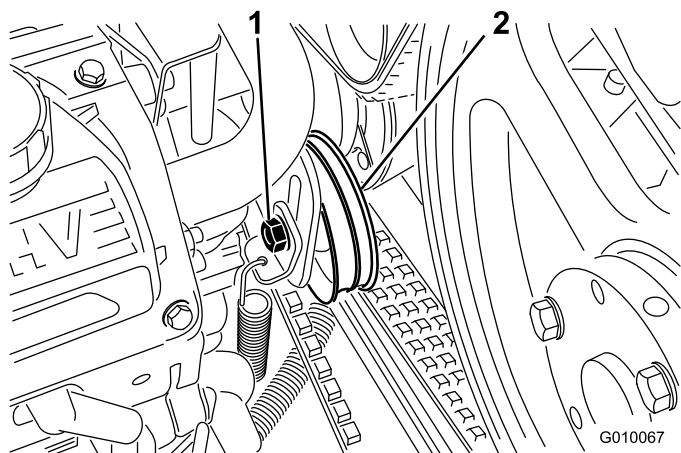

Figure 57
3. Loosen the pump belt idler bolt just enough to allow movement within it's adjustment slot (Figure 57).